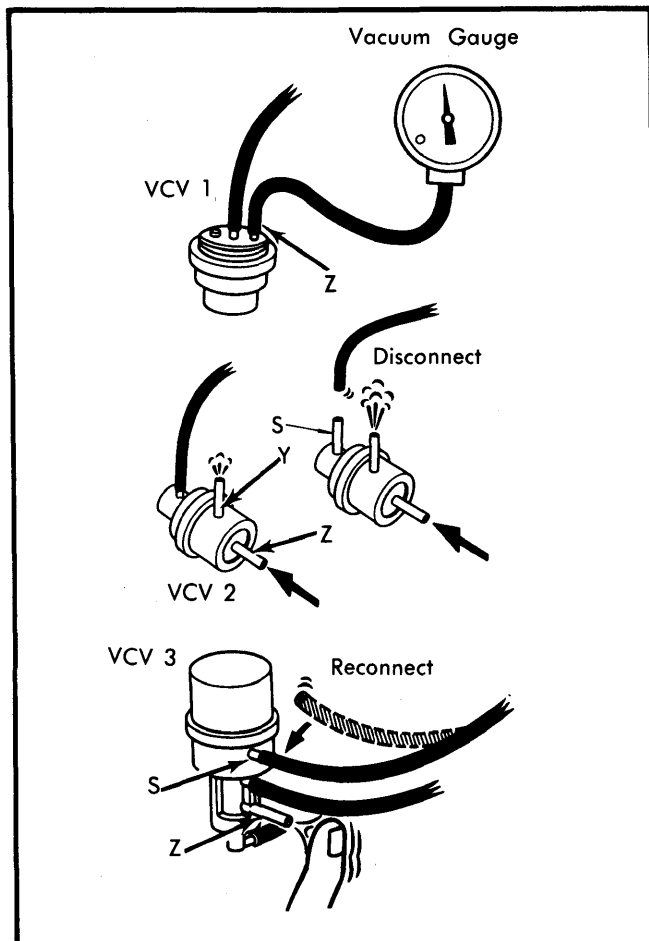

Fig. 8 Testing Vacuum Control Valve (Corolla)
3) Disconnect vacuum hose from port S and Z of VCV 3. Plug port Z with finger and check that no vacuum is felt. Reconnect hose to port S. Vacuum should be felt momentarily. See Fig. 8.